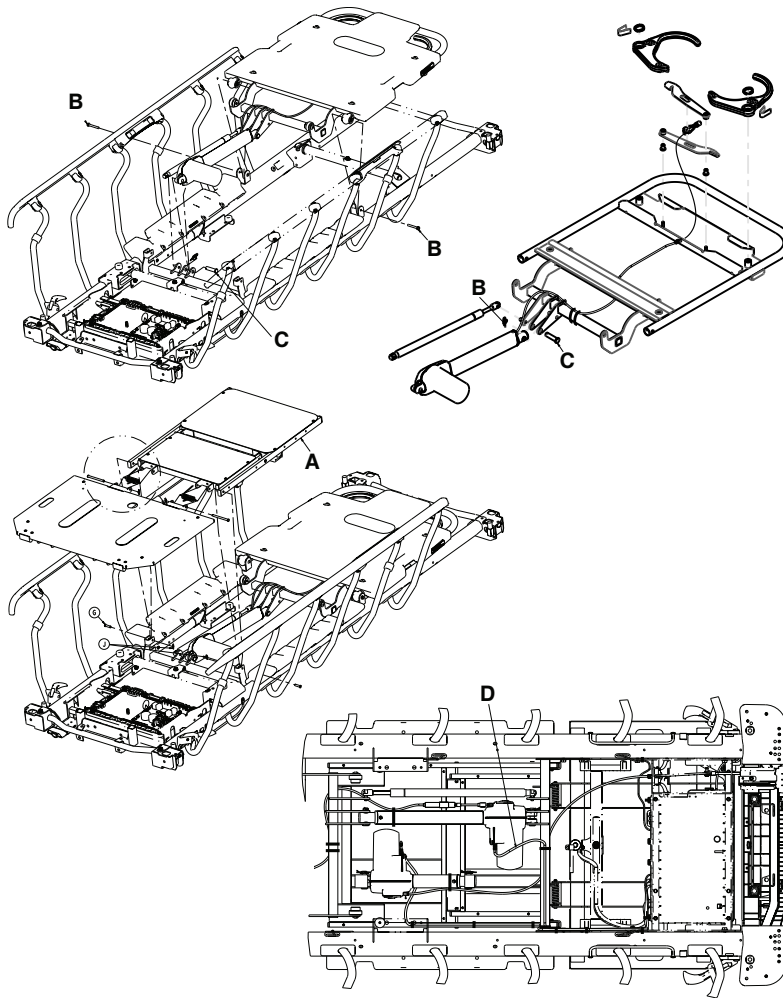

Figure 28 – Fowler backrest actuator replacement
5. Raise the drop seat (A) and fold the seat toward the foot end of the product (Figure 28).